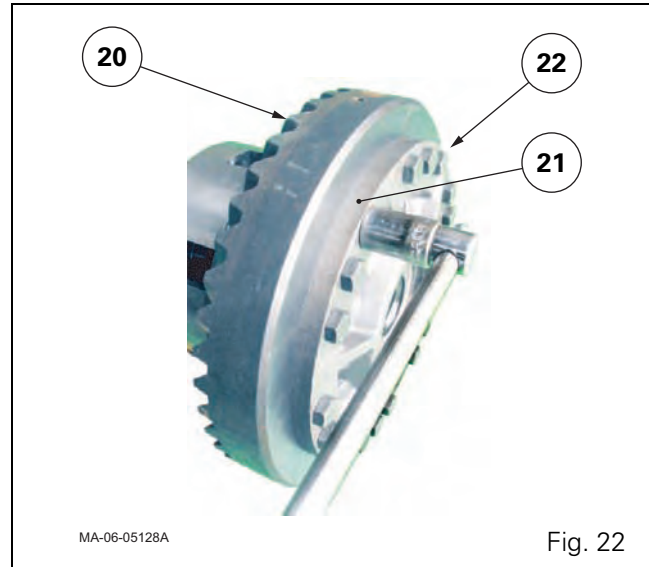

Fig. 22
Loosen the screws (22) (Fig. 22).